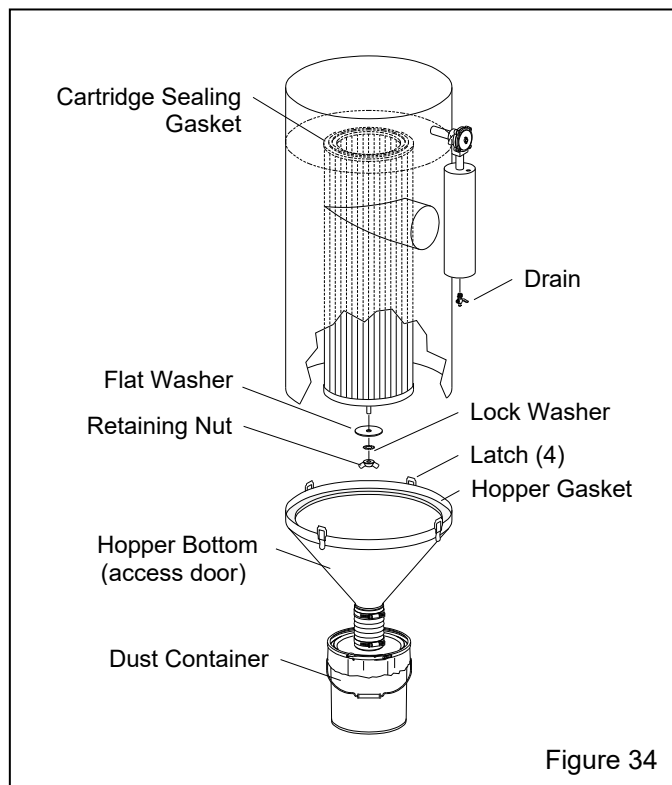

Figure 34
**7.11.4** Refer to Figure 34 and unlatch the dust-collector hopper bottom and remove it from under the collector.